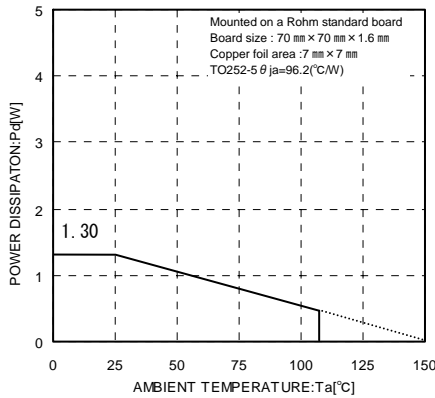
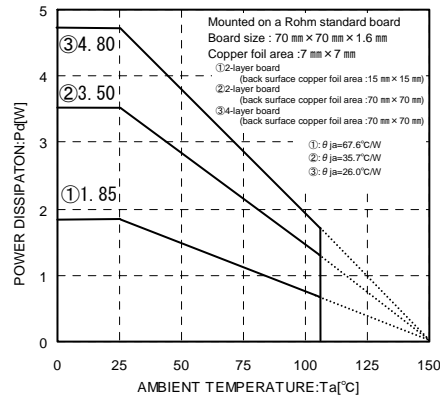

Fig.26
Fig.27(Reference data)
When using at temperatures over  $T_a=25^\circ\text{C}$ , please refer to the heat reducing characteristics shown in Fig.26 and Fig.27. The IC characteristics are closely related to the temperature at which the IC is used, so it is necessary to operate the IC at temperatures less than the maximum junction temperature  $T_{j\text{max}}$ .
Fig.26 and Fig.27 show the acceptable loss and heat reducing characteristics of the TO252-5 package. Even when the ambient temperature  $T_a$  is a normal temperature ( $25^\circ\text{C}$ ), the chip (junction) temperature  $T_j$  may be quite high so please operate the IC at temperatures less than the acceptable loss  $P_d$ .
The calculation method for power consumption  $P_c(\text{W})$  is as follows : (Fig.27③)
$$I_o \leq \frac{2.496 - 10 \times I_b}{5} \quad \left[ \begin{array}{l} \text{Fig.27③: } \theta_{ja}=26.0^\circ\text{C/W} \rightarrow -38.4\text{mW}/^\circ\text{C} \\ 25^\circ\text{C}=4.80\text{W} \rightarrow 85^\circ\text{C}=2.496\text{W} \end{array} \right]$$